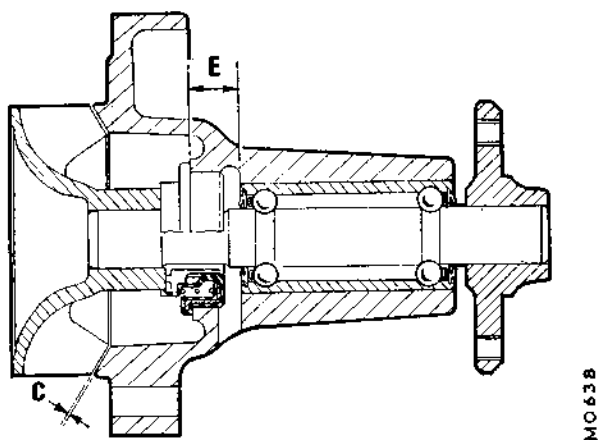

Fig. C.5
10. Press the spindle bearing assembly into the pump body and take measurement D, Fig. C.5; adjust the